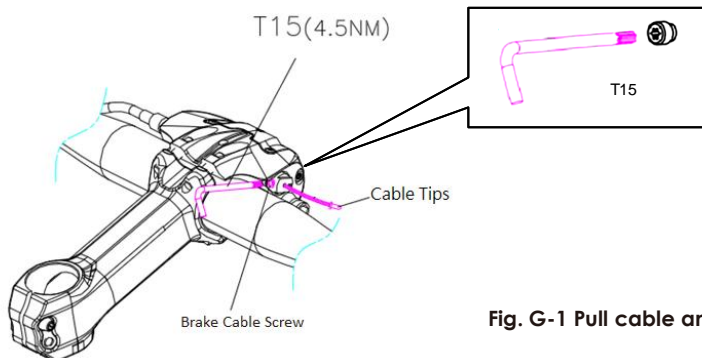

Fig. G-1 Pull cable and tighten
- Loosen the brake cable screw on the master cylinder body. (**Fig. G-1**)
- Run cable through the control unit, housings and through the master cylinder. Pull the cable taut, being careful to NOT add any load to the brake cylinder. (**Fig. G-1**)